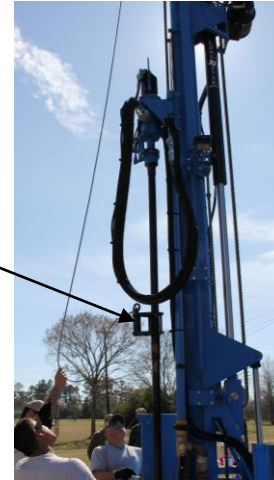

Figure 12
Apply pipe joint compound to the threads of the swivel stem, the first drill pipe, and the bit. Screw the drill pipe onto the swivel stem by hand, and then slowly lower the pipe through the slip plate. Screw the bit onto the end of the pipe by hand. However, for longer, heavier drill pipe, the hydraulic winch may be used to lift drill pipe into position. Attach the pipe handler to winch cable and drill pipe as shown in figure 11. After drill pipe is lifted and threaded into position, lower pipe handler down drill pipe so it may be detached. See figure 12.
- Disengage breakout to the unlock position. The drill pipe can now be unscrewed, removed and placed in the pipe rack. For longer, heavier drill pipe, the hydraulic winch and pipe handler may be used to assist in removing pipe. See figure 12 and figure 11.